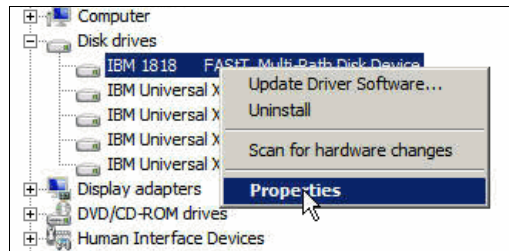

Figure 2-89 Properties of the Multi-Path Disk Device
3. To get more information about the LUN, or to check or change multipathing, you can right-click the device and go to **Properties** as shown in Figure 2-89.